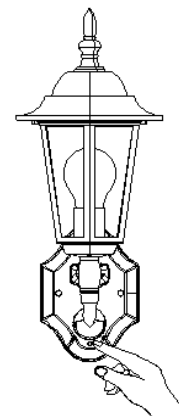

FIGURE 13
- b. Activate the transmitter lanterns learning mode press the LED for at least 3 seconds (FIGURE 13) the unit will emit the ID code to the associated receiver(s) During transmission, the LED will illuminate briefly as a notification.